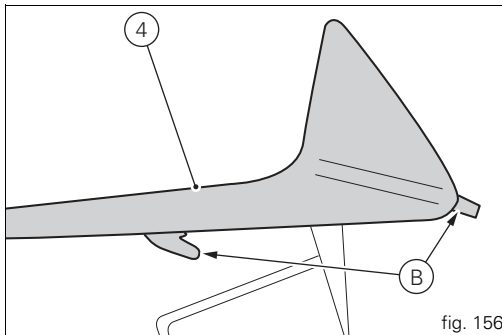

fig. 156
Reconnect the connector (5) and refit the structures that were removed being careful to insert the tabs (B, fig. 156) into the slots (A, fig. 155) made in the top fairing.